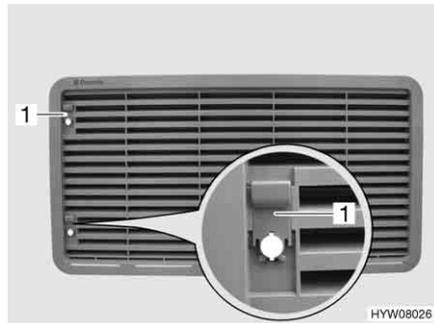

Fig. 148 Refrigerator ventilation grill
- Push sliding trap (Fig. 148,1) upward.